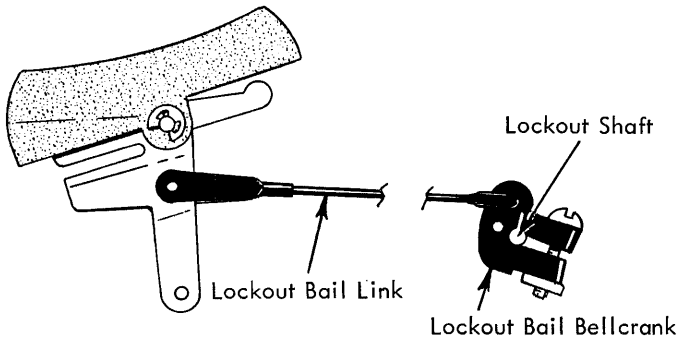
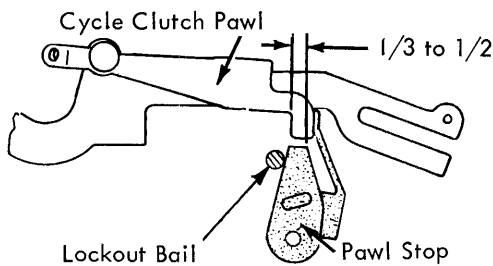

FIGURE 51. Lockout Link
FIGURE 52. Cycle Clutch Pawl Stop
- Lockout Bail Link - Position the clevis approximately half way on the threads of the link (Fig. 51).
3. Lockout Bail Bellcrank - With the On/Off switch in the off position rotate the lockout bail relative to the lockout bail bellcrank (Ref. Fig. 51) so that the cycle clutch pawl stop overlaps the cycle clutch pawl by  $1/3$  to  $1/2$  (Fig. 52).